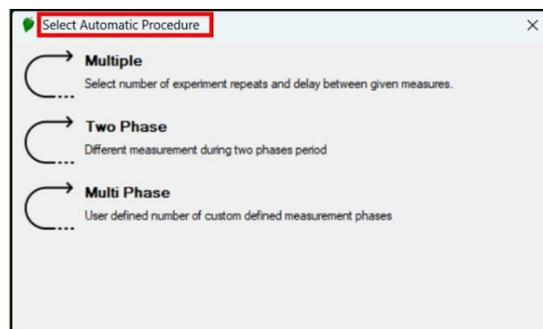

Fig. 3 Activation of Advanced Function extensions.
- Choose one of the following (Fig. 3):